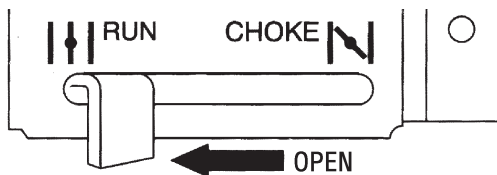

Figure 21. Engine Choke Lever (Open)
1. Place the **choke lever** (Figure 21) in the **CHOKE (CLOSED)** position if starting a **cold** engine.